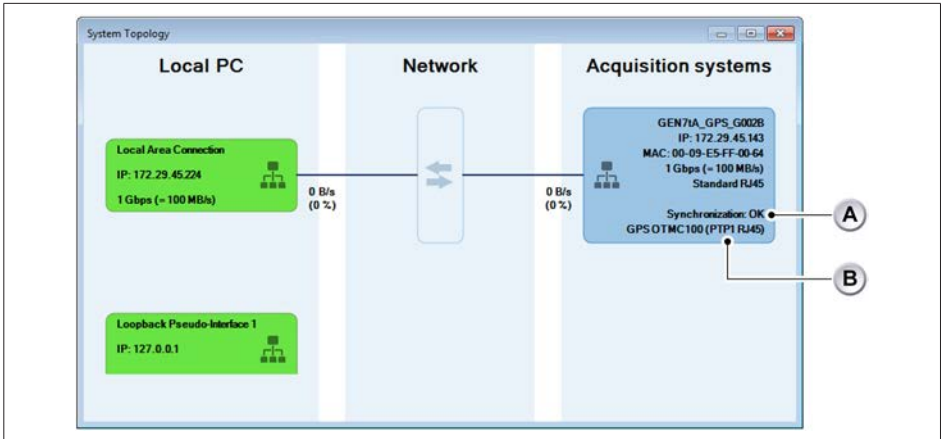

Fig. 15.21 System Topology
2. The **System Topology** overview opens (see Fig. 15.21):
- B States that **GPS OTMC 100** is connected as selected (PTP1 RJ45 for RJ45 connection as shown in Fig. 15.21, **PTP2 SFP** if you are using the optical Ethernet connection).